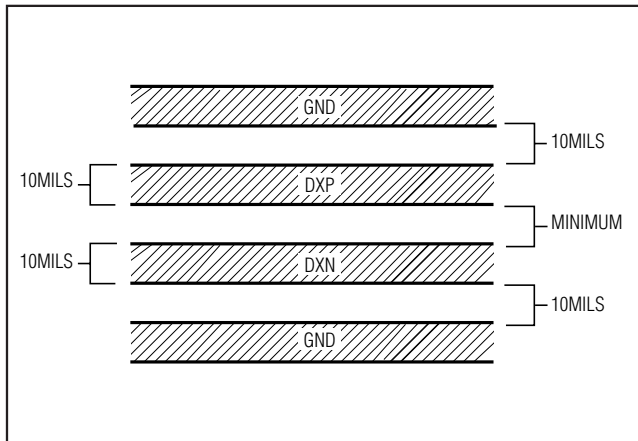

Figure 1. Recommended DXP-DXN PC Traces
- 3) Route the DXP and DXN traces in parallel and in close proximity to each other, away from any higher voltage traces, such as +12VDC. Leakage currents from PC board contamination must be dealt with carefully since a 20MΩ leakage path from DXP to ground causes about +1°C error. If high-voltage traces are unavoidable, connect guard traces to GND on either side of the DXP-DXN traces (Figure 1).
- 6) Use wide traces. Narrow traces are more inductive and tend to pick up radiated noise. The 10mil widths and spacings that are recommended in Figure 1 are not absolutely necessary, as they offer only a minor improvement in leakage and noise over narrow traces. Use wider traces when practical.